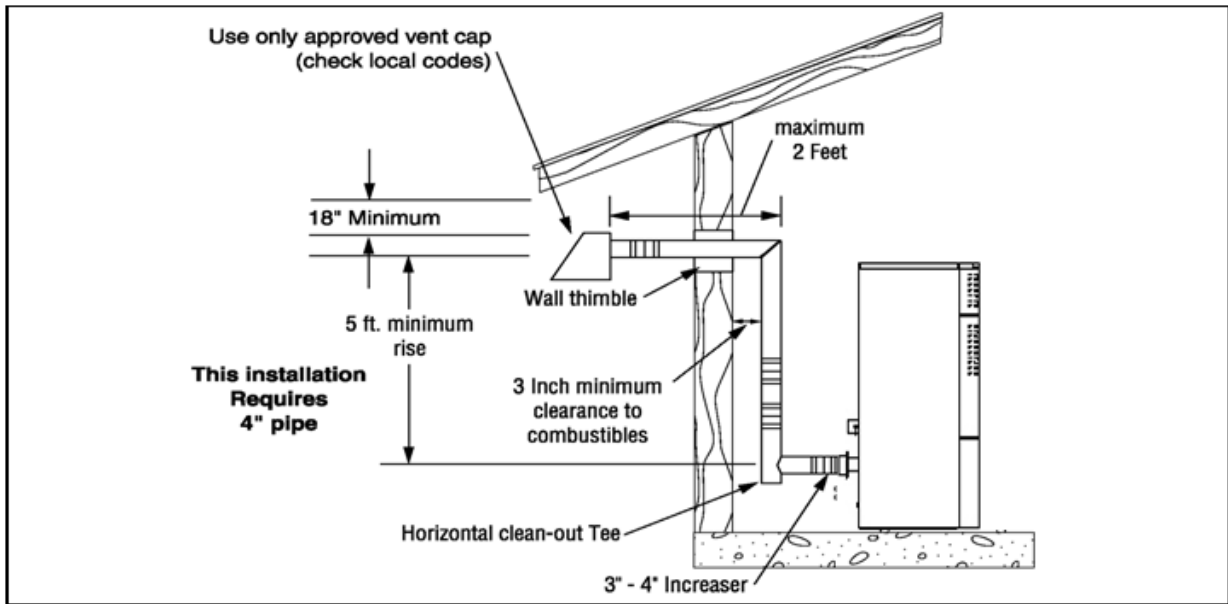

FIGURE 7
3. Connect a pellet vent tee with clean out cap and extend the vent pipe a **MINIMUM OF 5 FT VERTICALLY** maintaining a **MINIMUM 3"** clearance to combustibles with a square horizontal cap as shown in **FIGURE 7**.